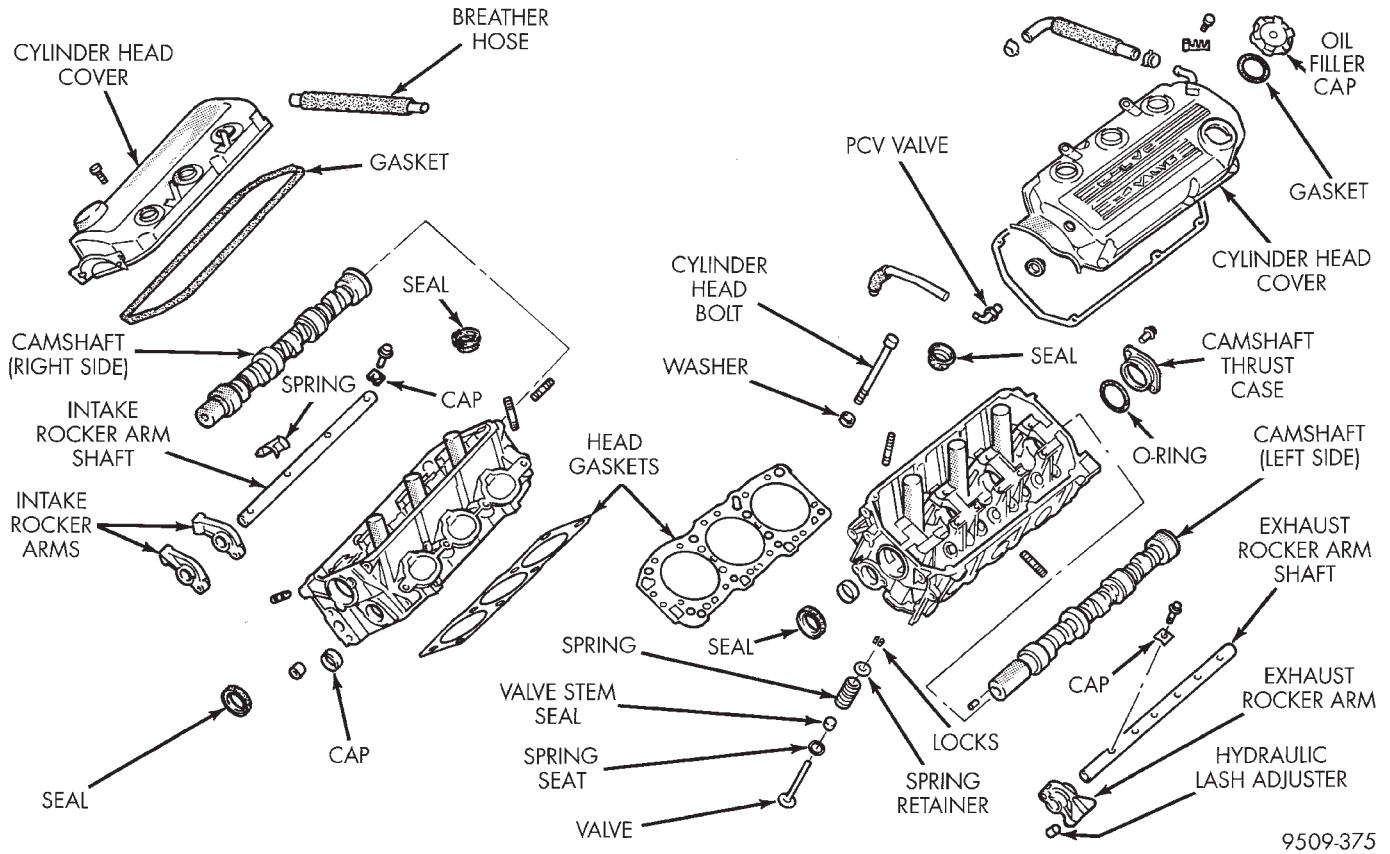

Fig. 41 Cylinder Head Components
- (1) Disconnect and relocate spark plug cables and wiring harness.
- (2) Remove cylinder head cover fasteners and remove cover (Fig. 41).
- (1) Remove intake manifold plenum. Refer to procedure in this section.
- (2) Cover lower intake manifold with a suitable cover during service.
- (3) Disconnect and relocate spark plug cables.
- (4) Remove cylinder head cover fasteners and remove cover (Fig. 41).